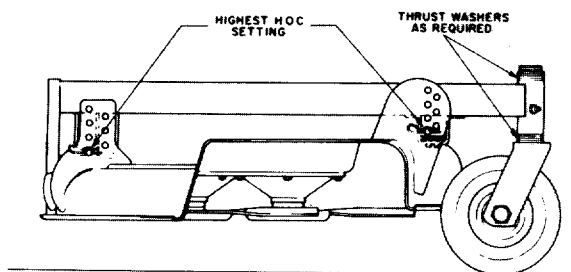

Figure 14
1. Check to make sure front height-of-cut pins are resting properly on frame cushions (Fig. 14).
2. Raise height-of-cut to the 3½" (89 mm) or 4 in. (102 mm) position (Fig. 14): refer to Adjusting Height-Of-Cut, page 6.
- A. Cutting units usually operated at 1 to 2 in. (25 to 51 mm) height-of-cut should have the low side of the cutting unit raised. Remove the Klip ring securing castor wheel on low end (Fig. 14) and remove castor assembly.
- B. Transfer one thrust washer from top side of castor shaft to lower side, install castor assembly and compare blade height of all blades; refer to items 3 through 7. Continue adding thrust washers if height still does not meet requirements.
- C. If cutting unit is operated at 2 to 4 in. (51 to 102 mm) height-of-cut, lower the high side of cutting unit. Remove Klip ring of castor at high end of unit and remove castor assembly (Fig. 14).
- D. Transfer one thrust washer from lower side of castor shaft to top side, install assembly and compare blade height of all blades; refer to items 3 through 7. Repeat procedure if height still does not meet requirements.